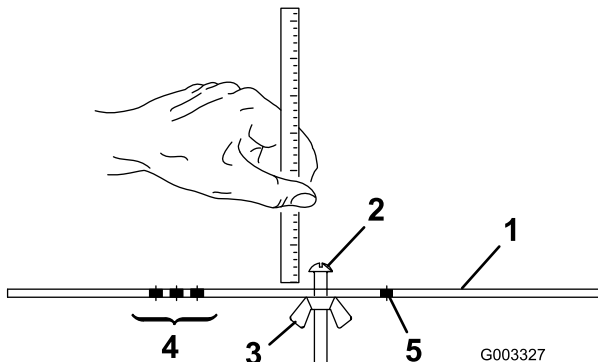

Figure 17
2. Loosen the nut on the gauge bar (Figure 17) and set the adjusting screw to the desired height-of-cut.